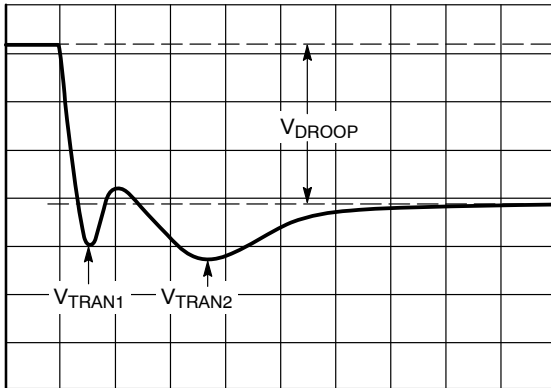

Figure 36. Transient Setting Waveform, Load Step
1. With the dynamic load set at its maximum step size, expand the scope time scale to 2 $\mu\text{s}/\text{div}$ to 5 $\mu\text{s}/\text{div}$. This results in a waveform that may have two overshoots and one minor undershoot before achieving the final desired value after V_{DROOP} (see Figure 36).